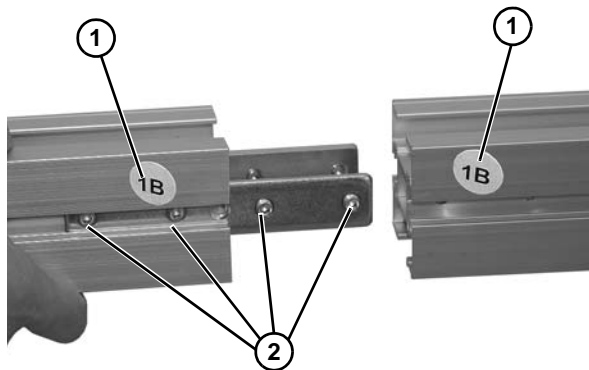

Figure 7
1. Locate and arrange conveyor sections by section labels (Figure 7, item 1).
2. Join both conveyor sections, and tighten two set screws (Figure 7, item 2) on both sides. Tighten all set screws 1/4 turn past contact with frame.